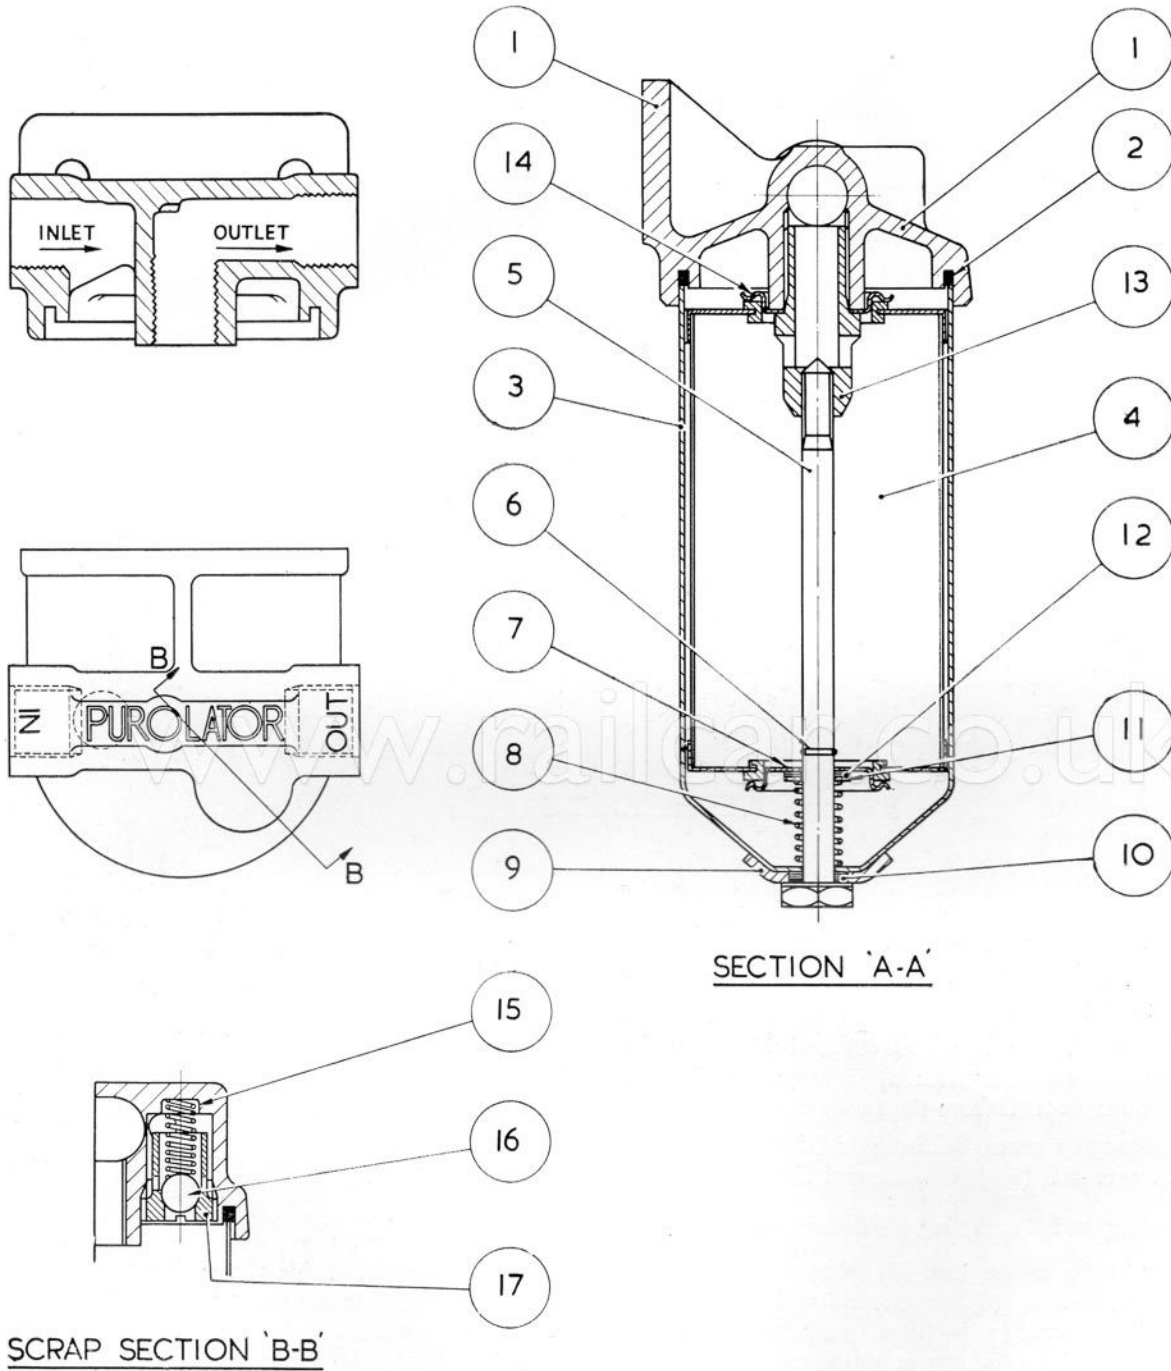

Fig. 10. Section through Oil Filter
(See fig. 10).
**Renewing the Filter Element** (See fig. 10).
2. Unscrew the centre bolt (5) and withdraw the sump (3) and filter element (4) from the head (1). Remove element from the sump.
3. Thoroughly clean the interior of the sump and examine seal (2). Replace seal if damaged, and
4. Place the new element in the sump so that it rests on lower element guide, and then assemble the sump to the filter head, ensuring that the former seats squarely on the seal (2). Screw the centre bolt (5) into the centre tube firmly enough to ensure that there will be no oil leakage past the seals (2) and (10).
**Dismantling and Assembling the Filter** (See fig. 10).